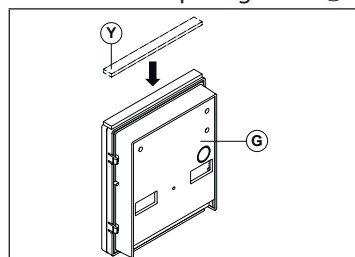

Fig. 5
Apply the (Y) seal as shown in Fig. 5.
4. Before installation of the module support frame, hook the modules **(G)** to the support frame **(H)** as shown in **Fig. 5** then, as shown in **Fig. 6**, fit the two anti-tampering locks **(W)** for each module (do the same for the second module support frame);